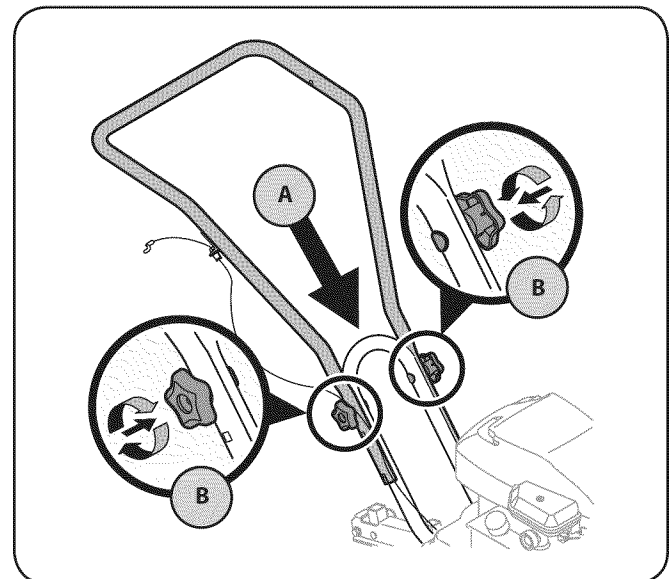

Figure 3-2
2. Position the upper handle onto the lower handle, Step A in Fig. 3-2. Align the holes on the lower handle with the holes on the upper handle. Choose the upper or lower holes depending on the desired handle height.
3. Insert carriage bolts through the holes and secure with the star knobs, Step B in Fig.3-2. Make certain the carriage bolts are seated securely into one of the two positions provided.